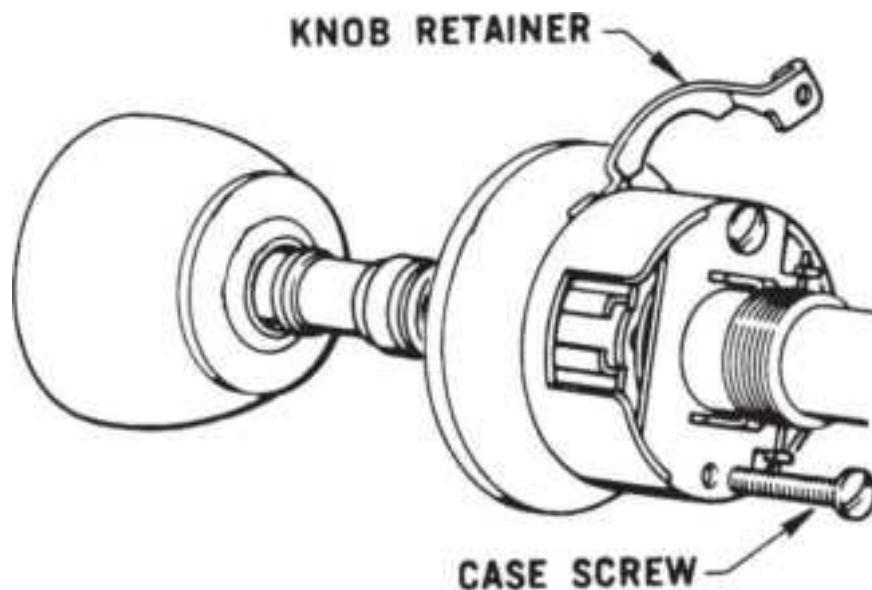

**Figure 13.13** Changing lockset hand.
2. Slightly loosen *one* case screw and back off the other (Fig. 13.13 ).